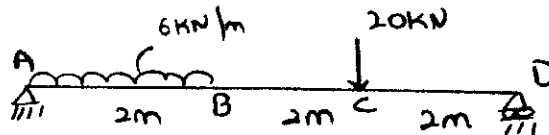

Fig.Q5(b)
b. Draw SFD and BMD for the beam shown in Fig. Q5(b) (14 Marks)